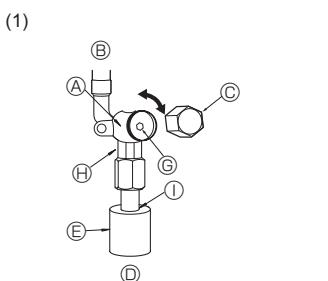

Fig. 4-5
- (1) Gas side (Fig. 4-5)
- ① Remove the cap and turn the valve rod counterclockwise as far as it will go with the use of a 5 mm hexagonal wrench. Stop turning when it hits the stopper.